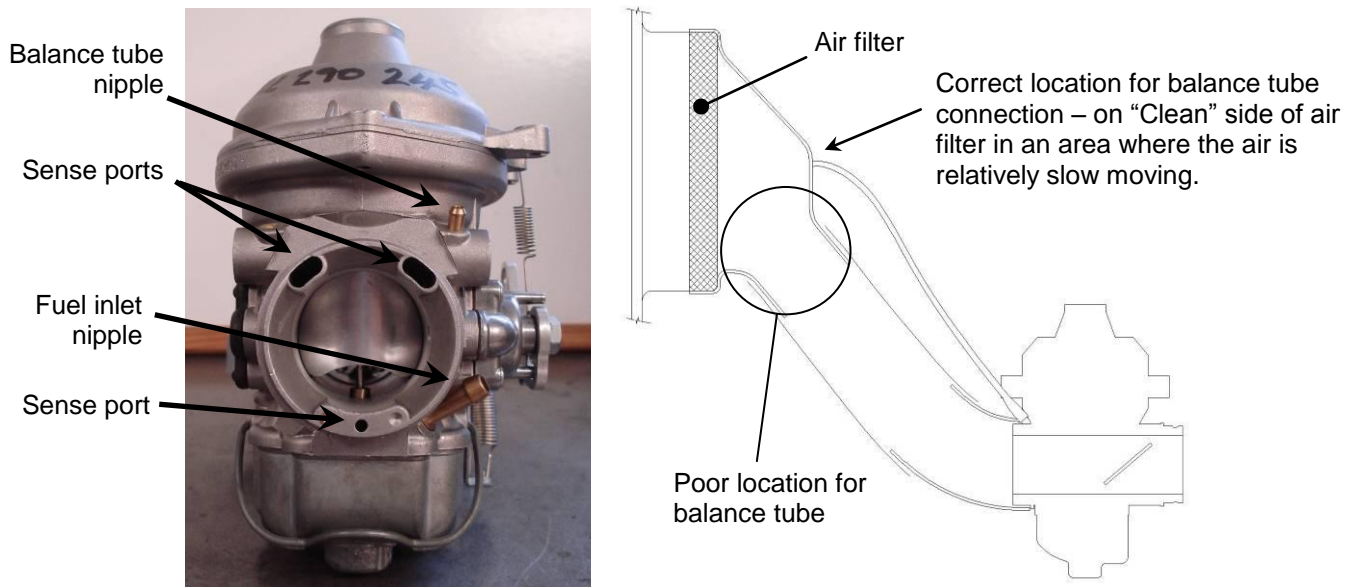

Figure 32. Carburettor Intake & Balance Tube Detail
- The Bing carburettor has a Balance tube (also known as a "sense tube") which connects the carburettor to the air box. The tube runs from a nipple on the carburettor to the airspace in the air box on the "clean" side of the air filter. This tube is part of a system of ports which "tells" the carburettor how hard the engine is working and controls how the carburettor varies the fuel / air mixture delivered to the engine. Tuning issues and poor running will result if this tube is blocked or connected to the wrong spot. Figure 32 shows the tube installation. Note that the balance tube must not be connected to the air box in a location where the air is moving fast – rapid flows produces pressure changes and boundary layer effects which mean the balance tube gives the carburettor "bad" information, which can cause poor mixture control and running issues.